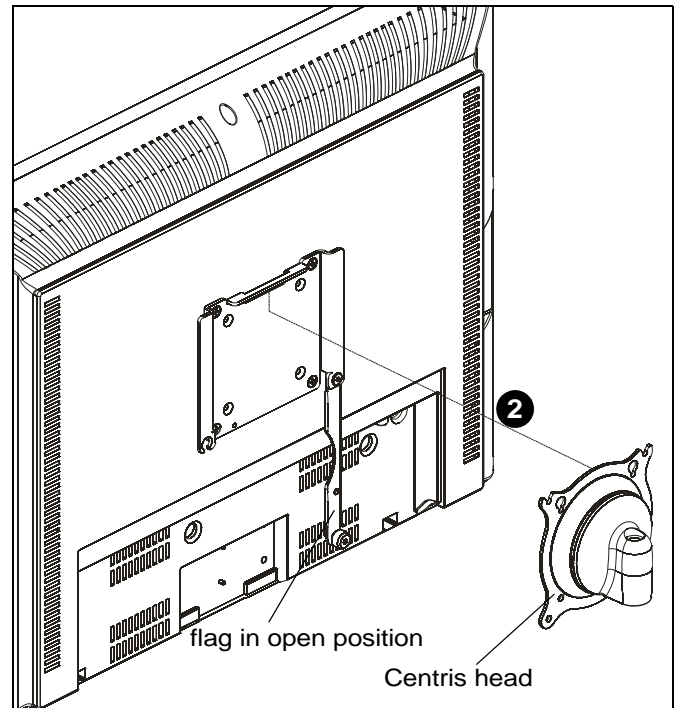

Figure 3
1. Make sure quick connect/disconnect bracket flag is in the open position. (See Figure 3)
2. Place quick connect/disconnect bracket over Centris plate making sure upper lip of bracket covers top of Centris plate. (See Figure 3)